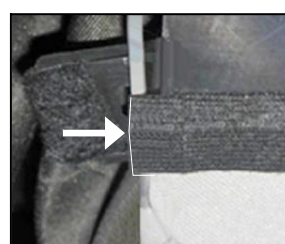

Figure 18f
- Start and finish the application from edge to edge as shown in Figure 18f.